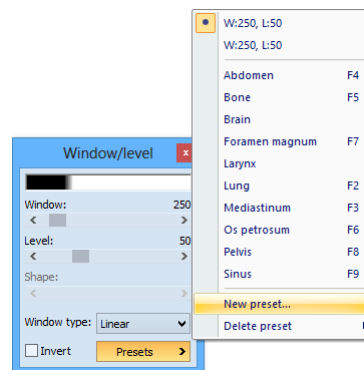
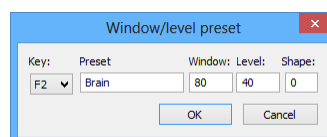

Figure 148 – Creating a new window/level preset
Figure 149 – Window/level preset dialog – defining a new preset
3. Select the **New preset...** menu item (see Figure 148) in the displayed list. The **Window/level preset** dialog (see Figure 149) is then displayed. The initial values for the window, level shape and palette graduation type (even if not displayed) are the same as the current window/level settings in the current view.